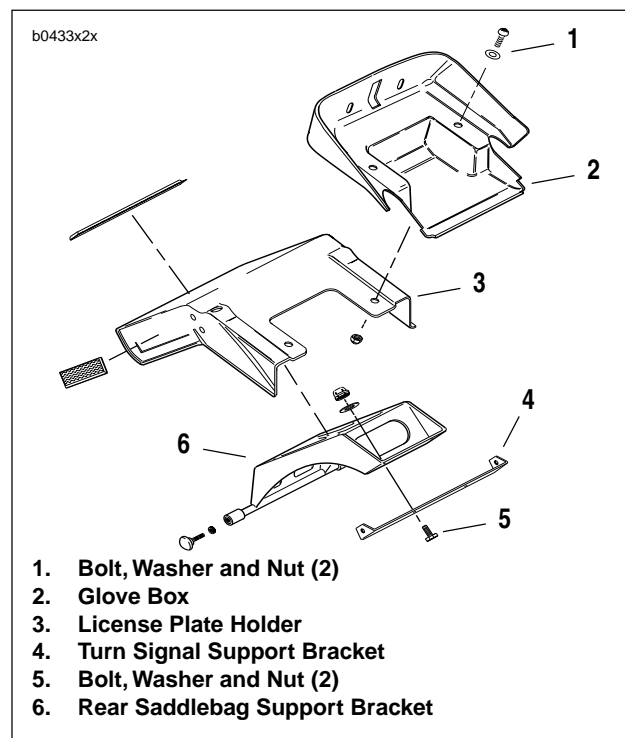

Figure 2-102. Glove Box
4. See Figure 2-102. Remove bolts, washers and nuts (1) holding glove box (2) to license plate holder (3) and frame.